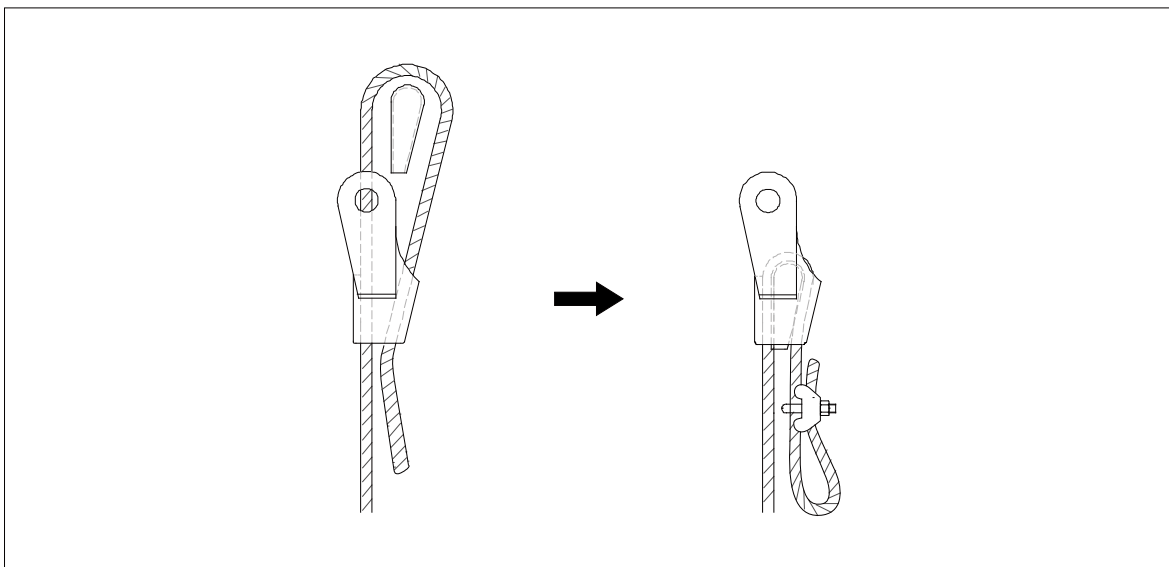

Figure 7-10 Rope Clamp
- (c) Install the socket and wire-rope clamp. Refer to Figure 7-10.